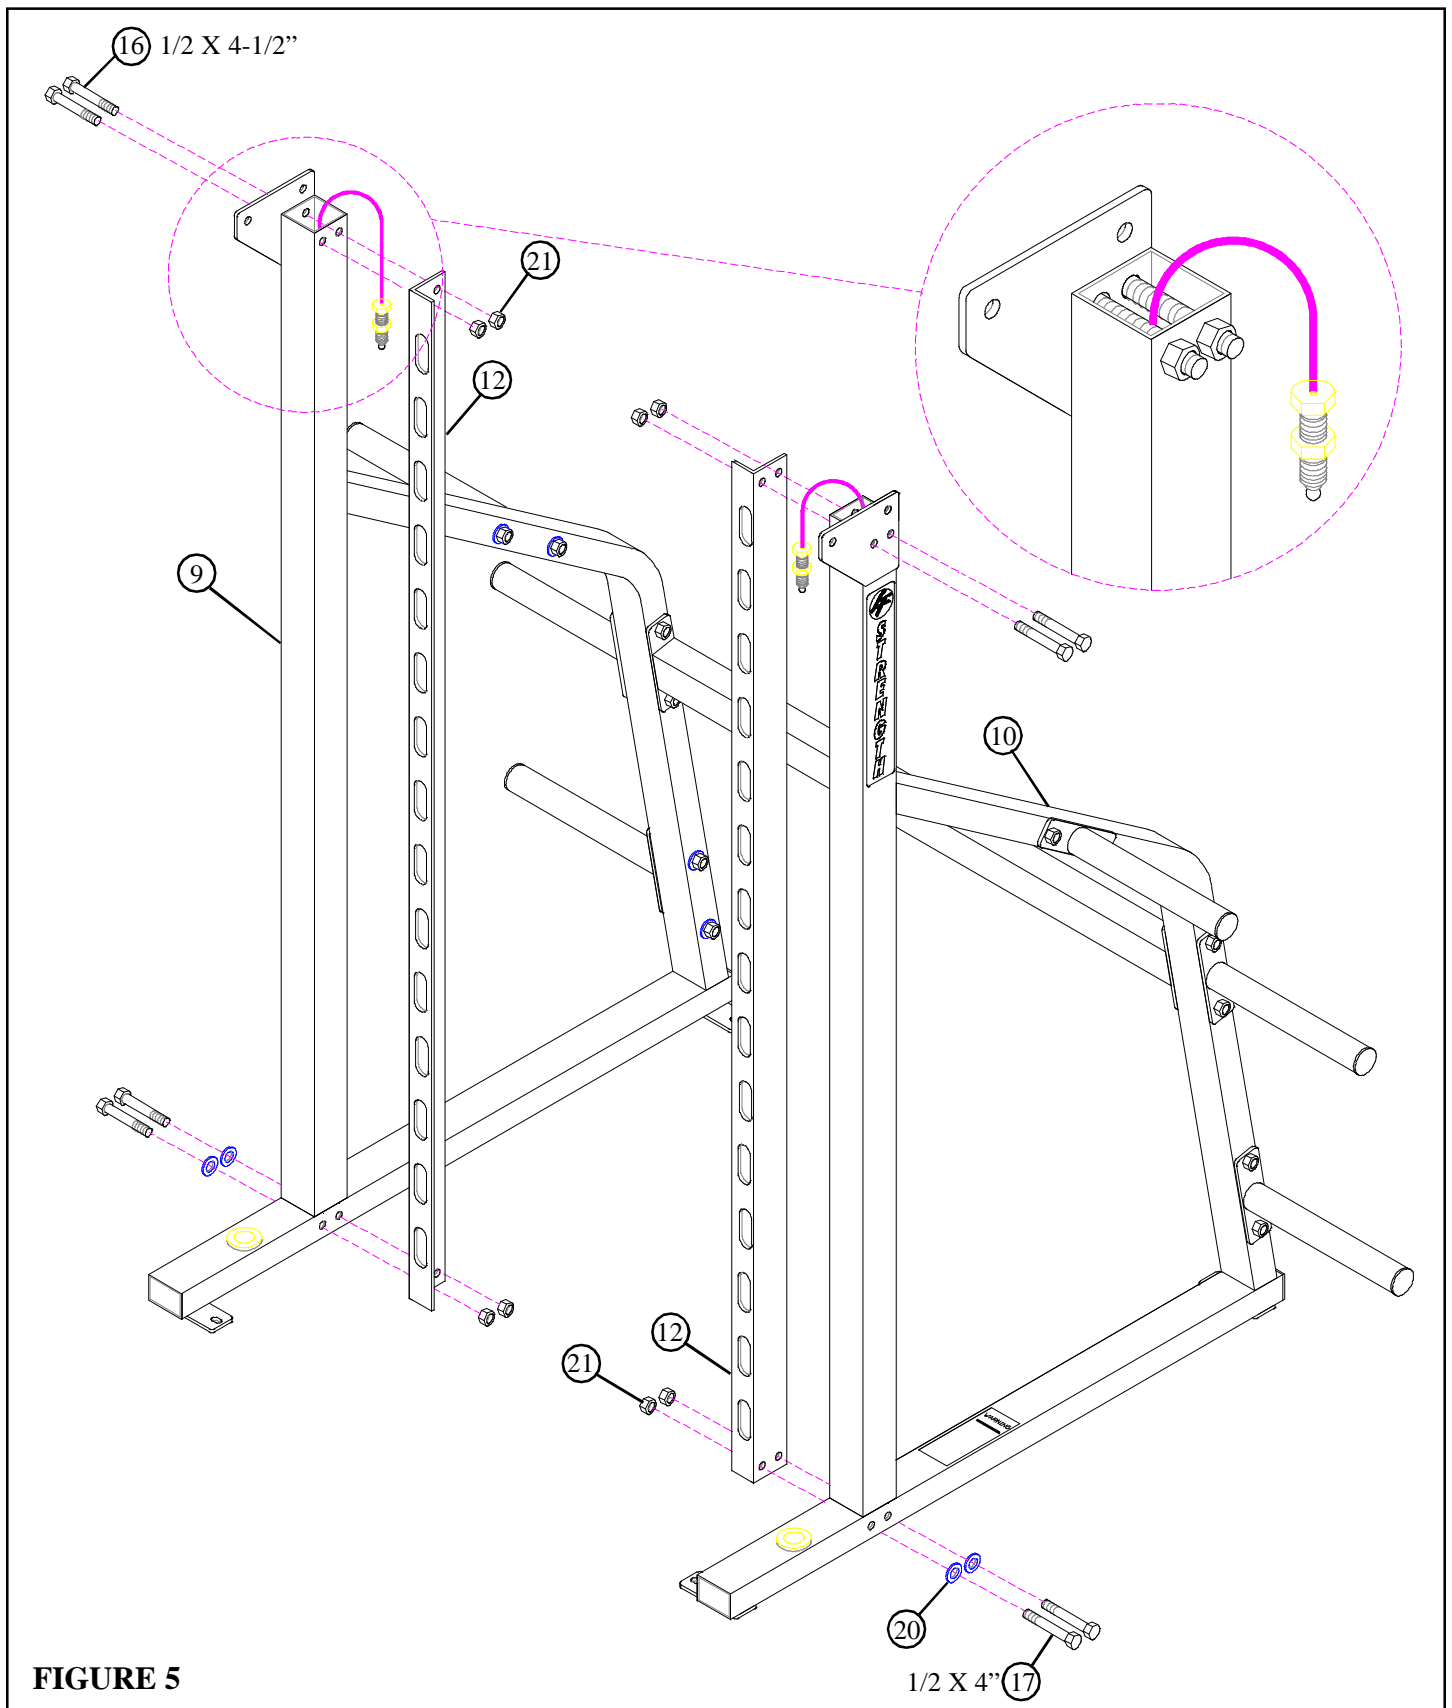

FIGURE 5
- **LOOSELY** assemble two CHROME ANGLES (12) to the top of the LEFT & RIGHT UPRIGHTS (9 & 10) using four 1/2 X 4-1/2" BOLTS (16), and four 1/2" LOCK NUTS (21) as shown in FIGURE 5. (NOTE: MAKE SURE CABLE IS BETWEEN THE TWO BOLTS.)
- **LOOSELY** assemble the CHROME ANGLES (12) to the bottom of the LEFT & RIGHT UPRIGHTS (9 & 10) using four 1/2 X 4" BOLTS (17), four 1/2" WASHERS (20), and four 1/2" LOCK NUTS (21) as shown in FIGURE 5.